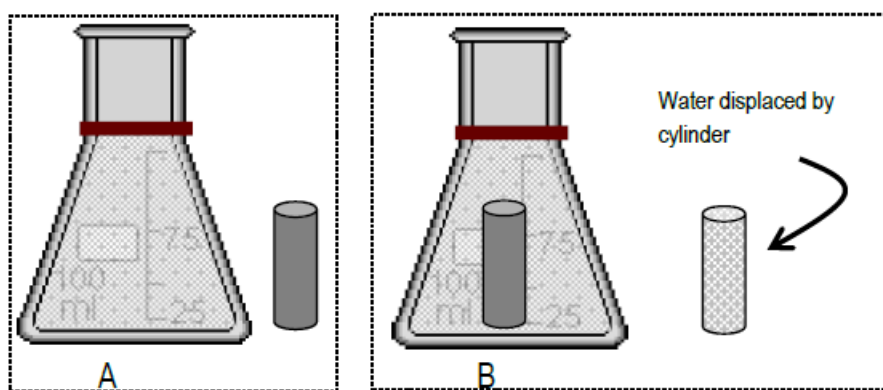

Figure 3
To perform pycnometry measurements, the mass of the cylinder and the mass of a flask filled with water to a mark (A, Fig. 3) are recorded. The cylinder is then inserted into the flask. Water is displaced when the cylinder is inserted. The volume of water displaced is removed by pipet, thereby restoring the water level to the mark (B). The combined mass of the flask, remaining water, and cylinder is then measured.